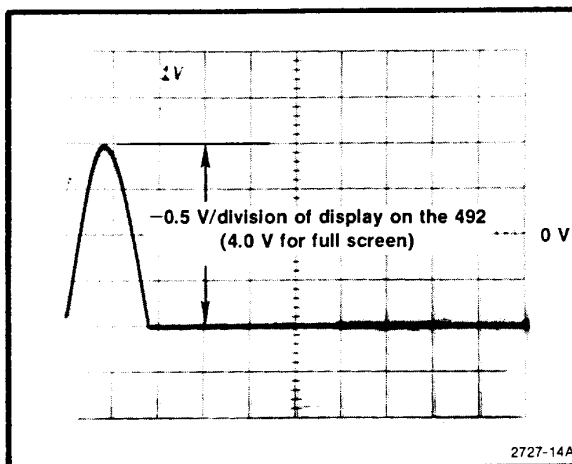

Fig. 3-21. Display of a full screen signal at the Vertical Output connector.
e. Check the vertical signal output level on the test oscilloscope. Output level should equal plus and minus  $2\text{ V}$  for a total of  $4\text{ V} \pm 0.2\text{ V}$  (see Fig. 3-21).